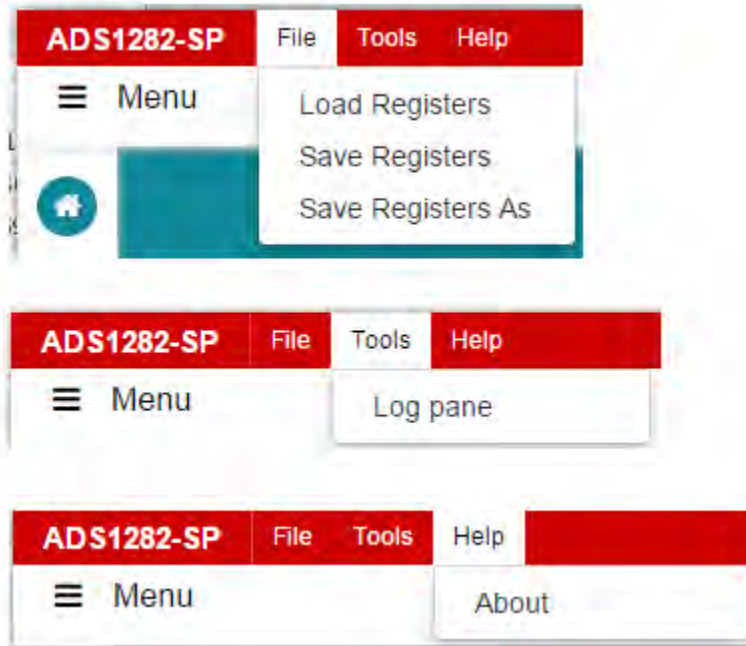

Figure 16. ADS1282-SP GUI Top-Most Border
The top-most border contains three menu drop-down windows (1) **File**, (2) **Tools**, and (3) **Help** as shown in Figure 16. The **File** menu allows users to save and reload register configurations. The **Tools** menu enables view of a Log pane of all GUI actions while the **About** menu provides links to resources and support for the GUI.